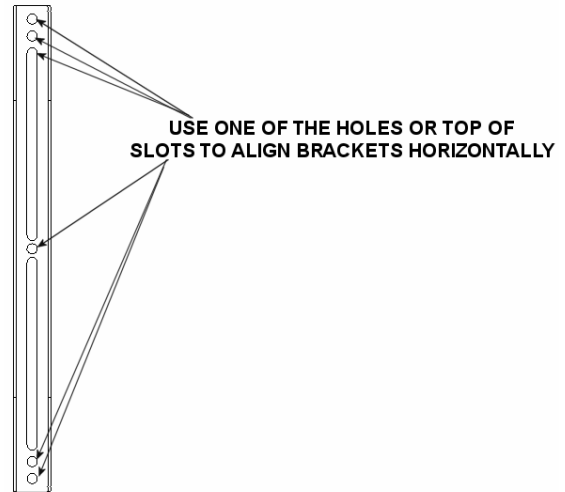
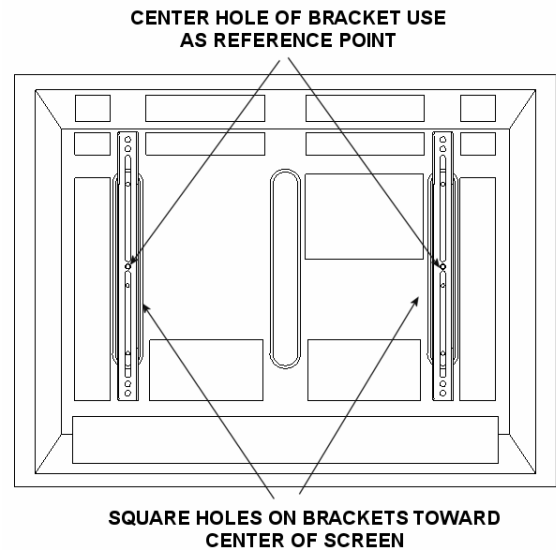

Figure 2. Place Brackets on Display
Figure 3. Align Holes
- Place the interface brackets (20) on the back of the display, aligning one of the holes or top of the slots as a reference point to align horizontally with the square holes facing toward the center of the display (see Figure 2 and Figure 3).